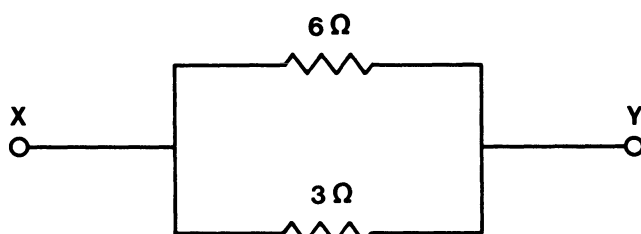

FIG. 3.15
11. Fig. 3.15 shows two resistors connected in parallel.